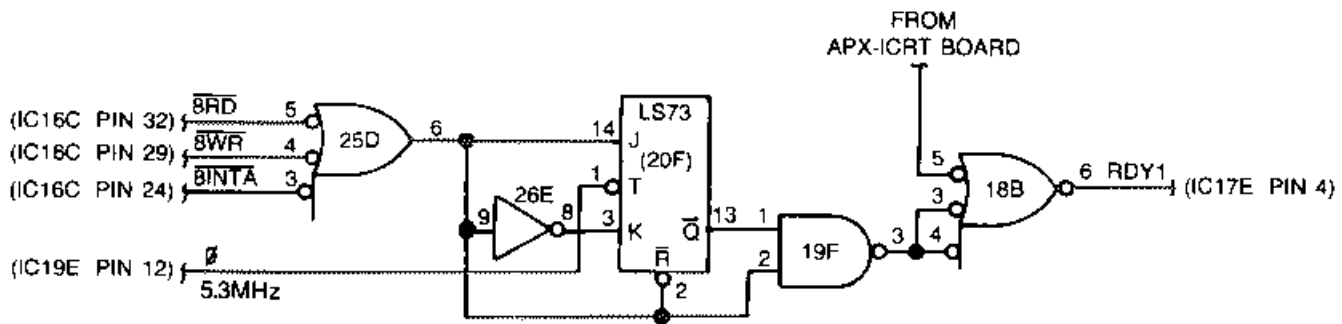

FIGURE 2-25. 8088 RDY SIGNAL GENERATOR CIRCUIT
2.3.1.6 8088 RDY Signal Generator Circuit (Figures 2-25 and 2-26)